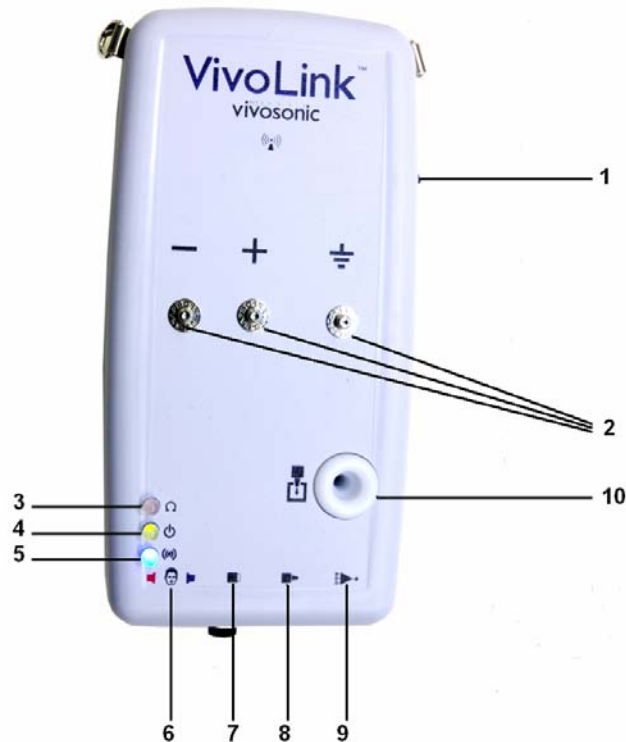
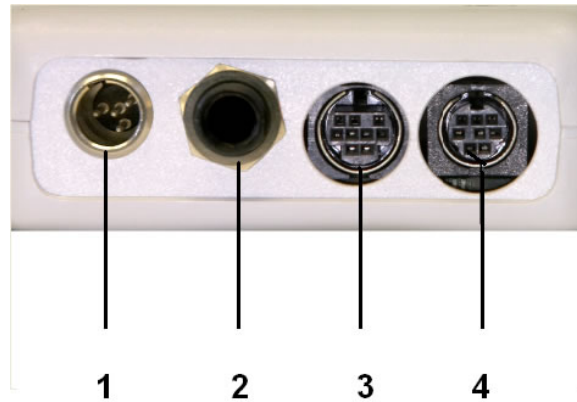
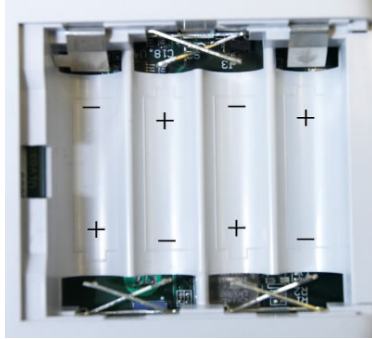

Figure 5 VivoLink™ Front Panel
Figure 6 VivoLink™ Connector Panel
Figure 8 Battery compartment of the VivoLink™.
The transducers and Amplitrode® are connected to the VivoLink™ through the connector panel (Figure 6). To avoid any confusion while connecting peripheral accessories to the VivoLink™, all locations are marked with specific symbols on the front panel of the VivoLink™ over the locations of the actual connectors (Figure 5).
The VivoLink™ runs on four (4) AA batteries. To ensure VivoLink™ will run properly and will last the entire test, make sure that the batteries are inserted properly into the battery compartment (Figure 8) (marked “+” and “-” on the battery poles, corresponding to the same markers of the battery compartment for each battery). Ensure the batteries are fresh. To turn on the VivoLink™ press the On/Off switch Figure 5 - #1) and check the Power LED Indicator (Figure 5 - #4). The Power LED Indicator will remain **green** if the batteries are in good working condition. If the batteries are low the indicator will be **amber** and if the batteries are spent the indicator will be **off** (not luminous).
The Inter-electrode Contact Quality Mismatch LED Indicator (Figure 5 - #3) is **off** (not luminous) when the impedance mismatch between the non-inverting (positive) and inverting (negative) electrodes does not exceed 5000 Ohms.
After VivoLink™ has been switched **on** Bluetooth® LED Indicator (Figure 5 - #5) starts flashing with **blue** colored light while the VivoLink™ Bluetooth® wireless circuit is establishing a connection with the Bluetooth® dongle inserted in the computer slot. Typically it takes about 30 – 60 seconds for the VivoLink™ Bluetooth® wireless circuit to communicate with a Bluetooth® computer dongle before the steady wireless connection will be established. The Bluetooth® LED indicator light will continue to flash during this time.
Connectors for the Amplitrode®, OAE Probe, ER-3A Insert Phones, and B-71 Bone Conductor are located on the connector panel (Figure 5). To perform any testing, VivoLink™ and desirable transducer(s) should be connected to the Integrity™ through
the appropriate connectors. To establish a proper connection between peripheral accessories and VivoLink™, plug each device into the correct socket. Please check the specific symbols placed on the front panel of the VivoLink™ above the locations of the connectors (Figure 5).
The battery compartment (Figure 8) is located on the bottom panel of the VivoLink™ marked with an arrow. To open the battery compartment, slide the cover in the direction of the arrow. The four cells for AA batteries are marked with a “+” and “-” to ensure proper insertion of the batteries.
3. Insert four (4) AA batteries into the battery compartment of the VivoLink™ (Figure 8).
6. Insert four (4) AA batteries into the battery compartment of the VivoLink™ (Figure 8).